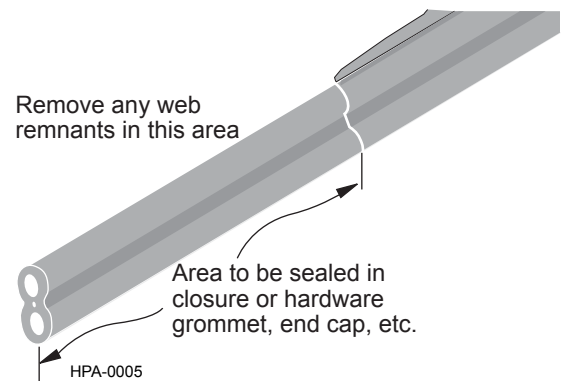

Figure 6
- Step 1:** Using the cable sheath knife or a utility knife, followed by sanding with an emery cloth, remove any web remnants on the cable area(s) that will be sealed in any closure or hardware (Figure 6).